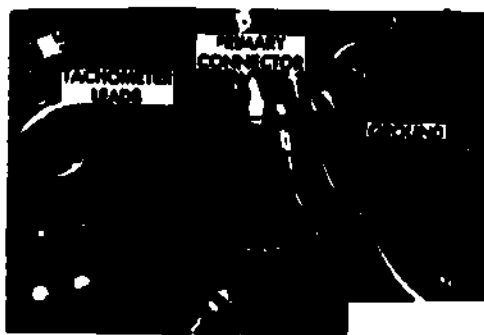

Fig 2-24. Connecting tachometer leads.
- Remove the inspection plug from the distributor cover and in its place install a primary connector adapter. Connect tachometer leads as shown, grounding one tachometer lead to the engine and attaching the other lead to the terminal on the primary connector adapter (fig 2-24).